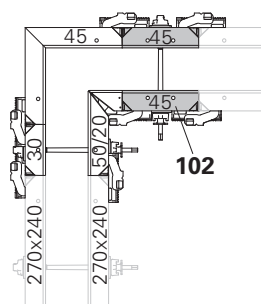

Fig. B1.08
Max. panel width between corner and subsequent panel is 45 cm – MX 18, 270 x 45 (102). (Fig. B1.08)